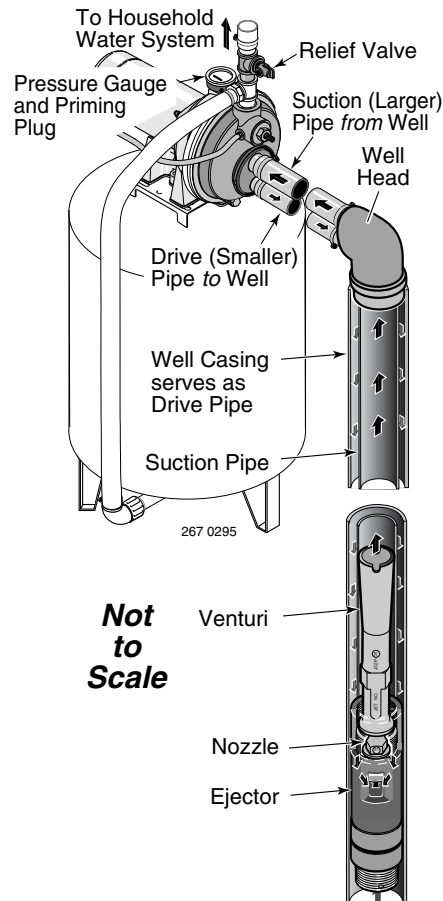

Figure 11: 2" (Single Pipe) Deep Well
2" WELL (Figure 11)
3. Assemble ejector kit FP4840 or 29670 (sold separately), well piping, and well head adapter according to the instructions provided with the ejector package. See Figure 11. Use galvanized drop pipe with turned couplings to allow proper flow. Follow the instructions included with the kit in order to match the nozzle and venturi to your well conditions.